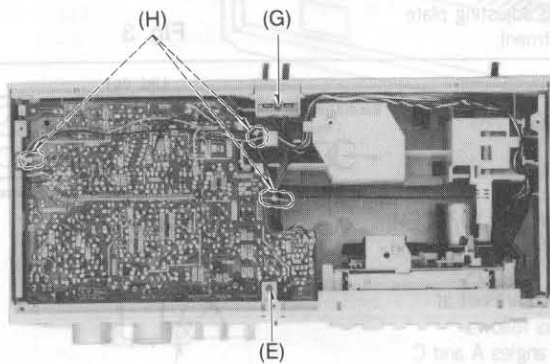

Fig. 3
A Head position adjustment Condition: • Playback and pause mode	(The head adjusting plate is provided to adjust the tape touch of the head in cue or review mode.) 1. Press the playback button and pause button. 2. Measure the space between the pressure roller and the capstan. Standard value: $0.5 \pm 0.3\text{mm}$ 3. If the measured value is not within the standard value, untighten screw (A), and slide the head adjusting plate in the direction of arrow (B) for adjustment.  Fig. 3